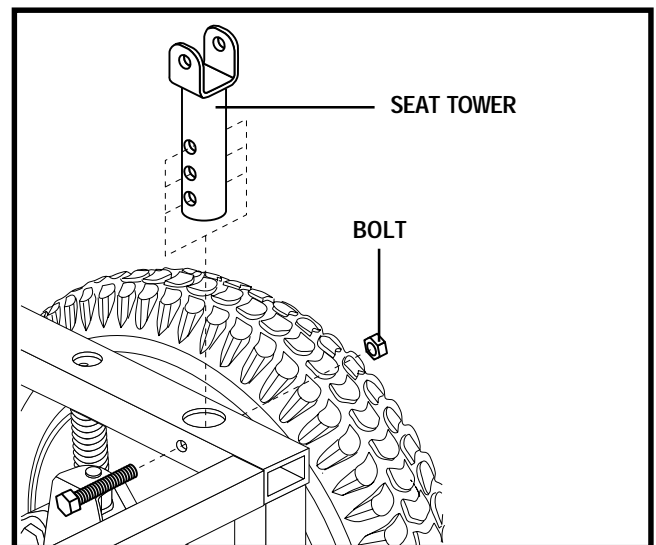

Figure 11. Seat Height and Angle Adjustment
6. Remove the bolt that fastens each of the four seat towers to the frame. See figure 11.